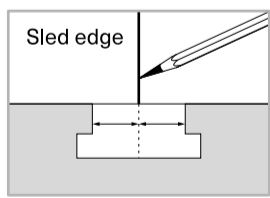

Fig 2c - Mark front & back edges
- 2.3 Mark the center of the miter slot on the front and back edges of your sled base [Fig 2c].
5.4 Drill 1/2" (12mm) diameter counterbores 5/16" (8mm) deep at M1, M2, and M3 using a 1/2" (12mm) forstner bit. Then drill 1/4" (6mm) thru holes at each mounting hole (M1, M2, M3) through the center of the counter bore [Fig. 2c].